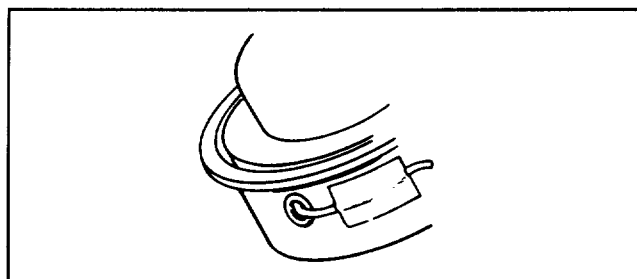

Figure 10
1. To avoid line tangle during shipment, the tip of the monofilament line has been taped to the head assembly (Fig. 10). The tape must be removed before operation.